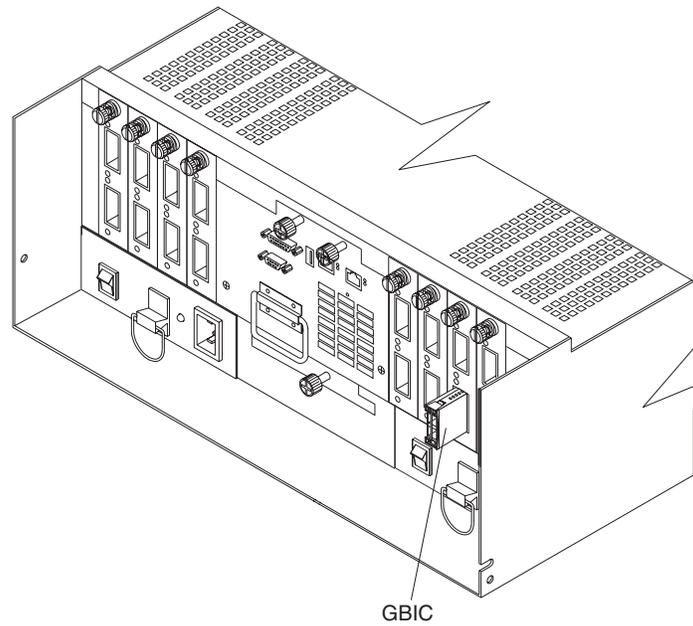

Figure 30. Installing a GBIC in a FASTt500
1. Insert a GBIC into a drive mini-hub port located on the back of a FAStT500, as shown in Figure 30 on page 31.